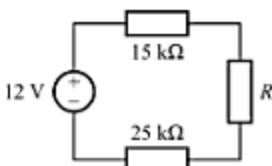

Fig. A-62
- A-19. Refer to the circuit of Fig. A-62.